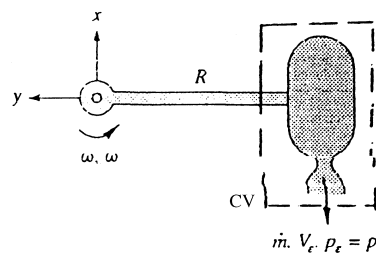

Fig. P3.104
**3.104** A rocket is attached to a rigid horizontal rod hinged at the origin as in Fig. P3.104. Its initial mass is  $M_o$ , and its exit properties are  $\dot{m}$  and  $V_e$  relative to the rocket. Set up the differential equation for rocket motion, and solve for the angular velocity  $\omega(t)$  of the rod. Neglect gravity, air drag, and the rod mass.